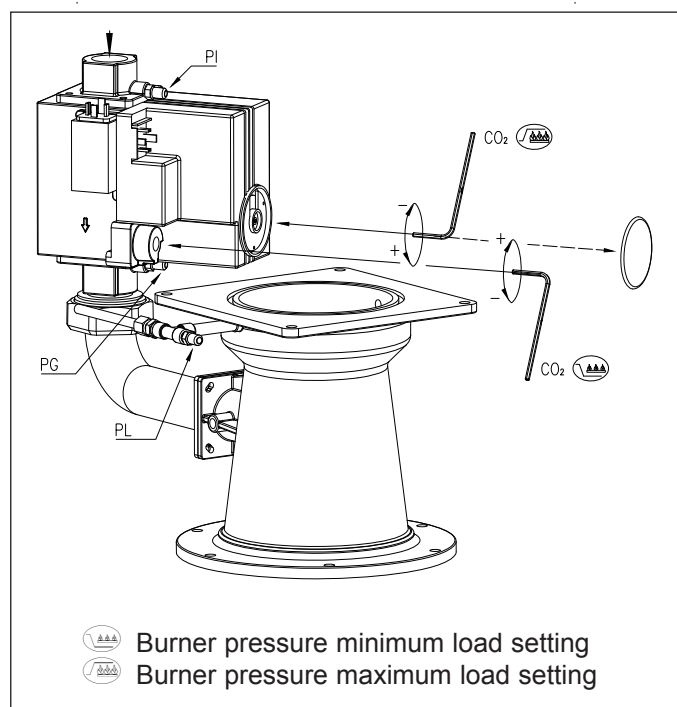
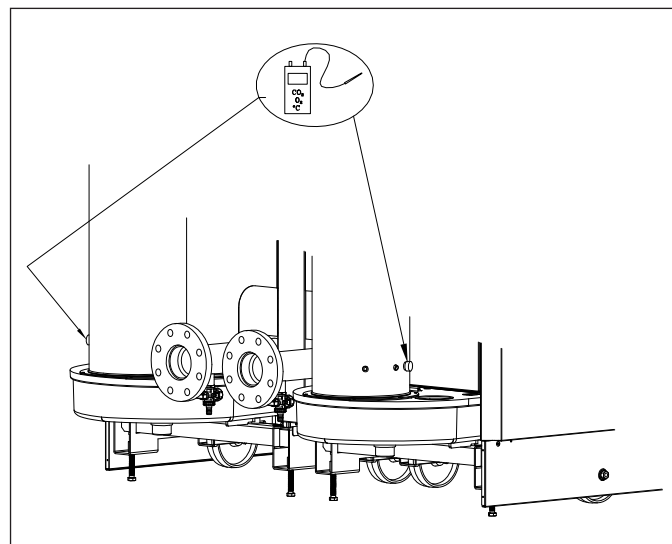

fig. 23 Gas valve multiblock adjustment points
fig. 24 Flue gas measuring point
11. Check the inlet gas pressure PI (see fig. 23).
17.a Check and correct, if necessary, the boiler module for correct gas/air ratio set-up. Checking takes place on full and part load, adjustment takes place only on the gas valve multiblock. For checking and adjusting are required: an electronical CO₂-gauge (on the basis of O₂) and a gas pressure gauge. Note that the opening (see fig. 24) around the measuring probe is sealed properly during measurement. Note also that measuring the O₂ levels in the flue gas is necessary, because direct measurement of CO₂ can lead to inaccuracies due to varying CO₂ levels in the natural gas. Connect the gas pressure meter between measuring point PG on the underside of the gas valve multiblock and measuring point PL on the venturi (see fig. 23), ensuring the connections are gas tight.
- 17.d Check CO₂-percentage (O₂-percentage) against *table 11*. If the values exceed the given tolerances, adjust according to *fig. 23*. Check the flame through the inspection glass, the flame must not blow off.
- 17.g Check CO₂-percentage (O₂-percentage) against *table 11*. If the values exceed the given tolerances, adjust according to *fig. 23*. Check the flame through the inspection glass, the flame must not blow off.